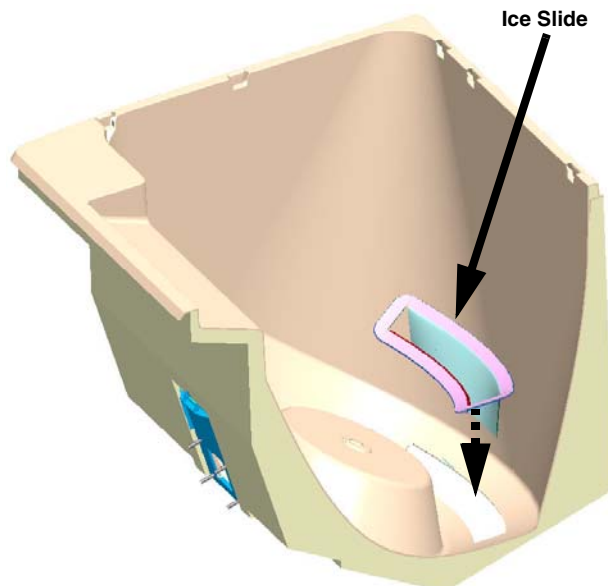

FIGURE 2. Ice Slide Assembly
1. Place ice slide into ice drop opening in bin (see FIGURE 2).